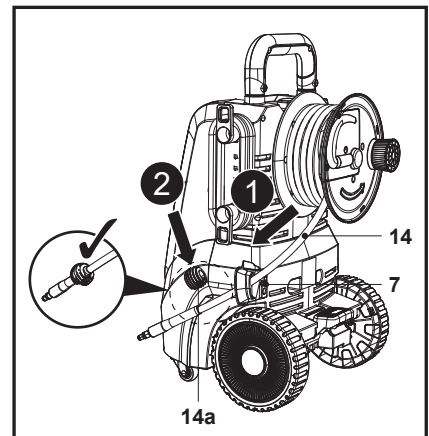

Fig. 4
2. Guide the pressure hose (14) through the hose guide (7), then attach the retaining ring (14a) at the tip (Fig. 4, steps 1, 2).